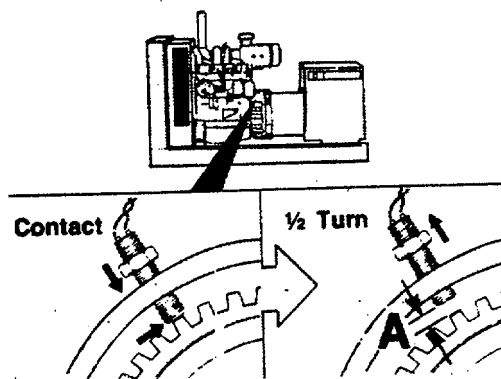

FIGURE 3-7. Magnetic Speed Sensor Adjustment.
- a. Adjust Magnetic Speed Sensor. (FIGURE 3-7)
- (1) Loosen lock nut and screw sensor in until it makes contact with the gear tooth.
- (2) Back off sensor +F turn. Secure lock nut. A=7.71 to 1.067mm (0.28 to .042 inch).